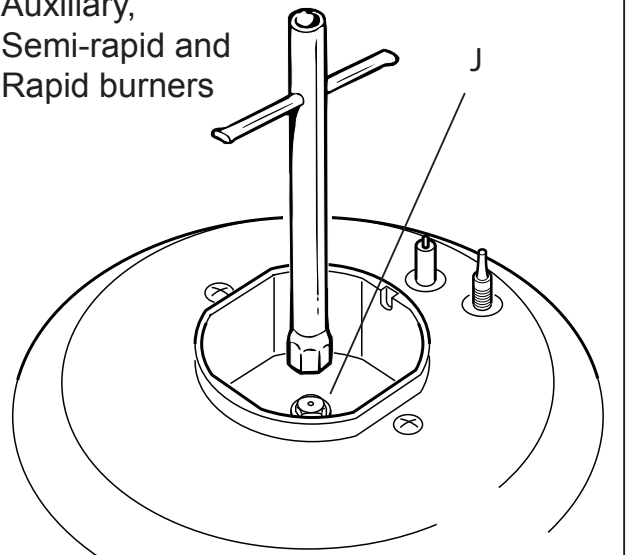

Fig. 2.5a
- Using a wrench, substitute the nozzle injectors "J" (figs. 2.5a, 2.5b) with those most suitable for the kind of gas for which it is to be used.